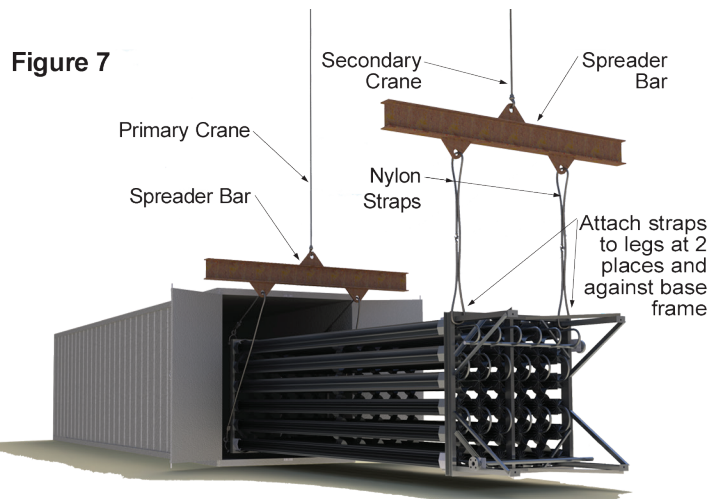

Figure 7
- 5.12 To complete removal from container, use additional forklift, crane & forklift combination or two cranes (two cranes as shown in Figure 7). When rigging to cranes, refer to Thermax I/O 11 (this document), page 2, Section 4, note 4.4.